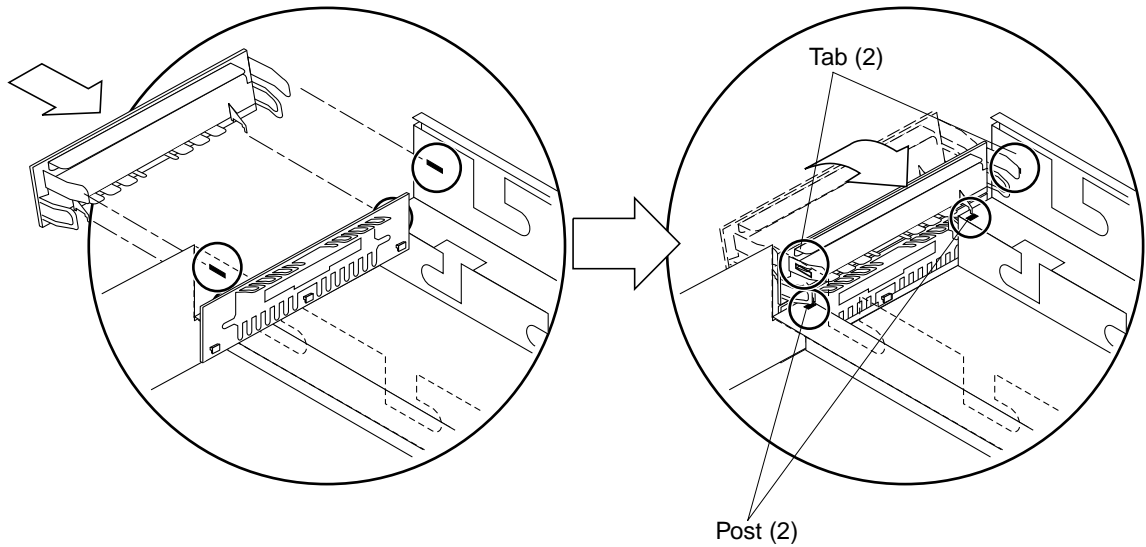

FIGURE 9-22 Installing the CD-ROM Drive Filler Panel
- a. Align the filler panel such that the filler panel base is on top of the diskette drive filler panel (FIGURE 9-22).**